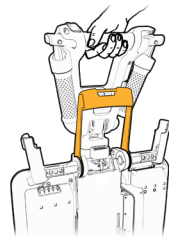

Figure 54
1. Make sure the handlebar is secured at an upright position (see Figure 54).